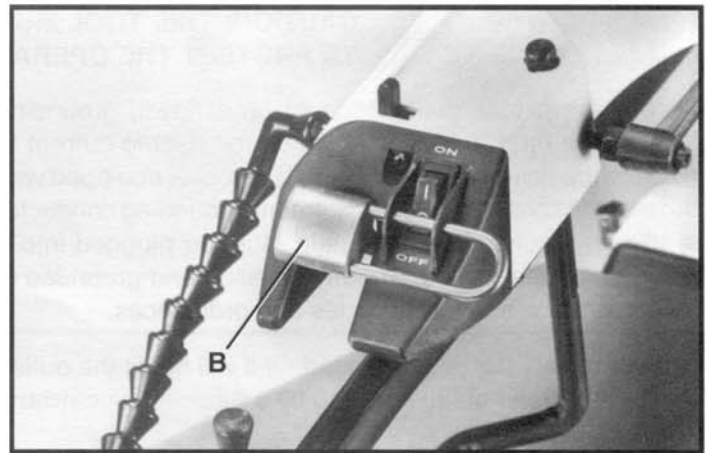

Fig. 17
IMPORTANT: We suggest that when the scroll saw is not in use, the on-off switch be locked in the "OFF" position using a padlock (B), as shown in Fig. 17. Available as an accessory from Delta is the 50-325 padlock, shown at (B).